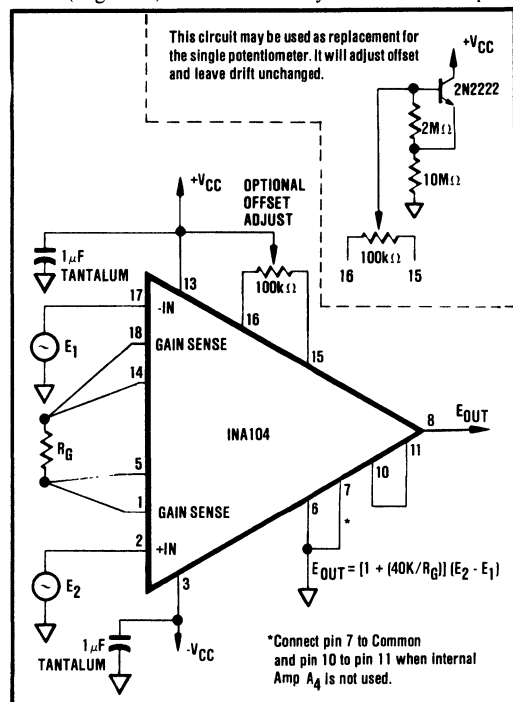
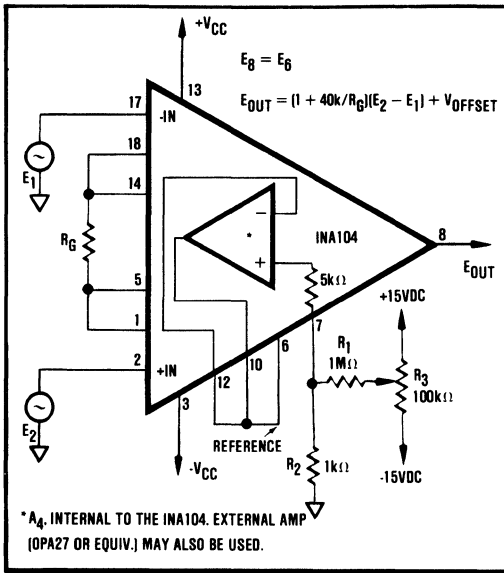
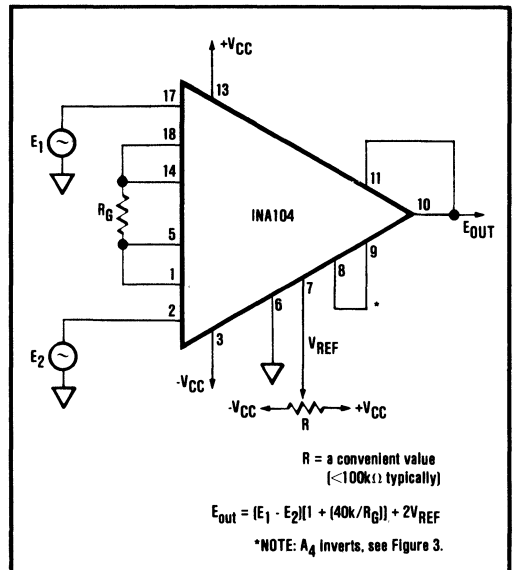

FIGURE 1. Basic Circuit Connection for the INA104 Including Optional Input Offset Null Potentiometer.
FIGURE 2. Optional Output Offset Nulling or Offsetting Using an Amplifier (Low Impedance to Pin 6).
FIGURE 4. Output Offsetting.
At +25°C, ±V_{CC} = 15VDC, and in circuit of Figure 1 unless otherwise specified
Figure 1 shows the simplest configuration of the INA104. The gain is set by the external resistor, R_G , with a gain equation of $G = 1 + (40K/R_G)$. The reference and TCR of R_G contribute directly to the gain accuracy and drift.
The optional offset adjust capability is shown in Figure 1. The adjustment affects only the input stage component of the offset voltage. Thus, the null condition will be disturbed (if input offset is not adjusted to zero) when the gain is changed. Also, the input drift will be affected by approximately $0.31\mu V/^\circ C$ per $100\mu V$ of input offset voltage that is trimmed. Therefore, care should be taken when considering use of the control for removal of other sources of offset.
It is frequently desirable to null the input component of offset (Figure 1) and occasionally that of the output
(Figure 2). The quality of the potentiometer will affect the results, therefore, choose one with good temperature and mechanical-resistance stability. The procedure is as follows:
3. Adjust the $100k\Omega$ potentiometer in Figure 1 until the output reads $0V \pm 1mV$ or desired setting. Note that the offset will change when the gain is changed. If the output component of offset is to be removed or if it is desired to establish an intentional offset, adjust the $100k\Omega$ potentiometer in Figure 2 until the output reads $0V \pm 1mV$ or desired setting. Note that the offset will not change with gain, but be sure to use a stable amplifier with good DC characteristics. The range of adjustment is $\pm 15mV$ as shown. For larger ranges change the ratio of R_1 to R_2 . The op amp is used to maintain a low resistance ($<0.1\Omega$) from pin 6 to Common to avoid CMR degradation.
The basic circuit connection for the INA104 is shown in Figure 1. The output voltage is a function of the differential input voltage times the gain.
Figure 1 does not include additional internal op amp A₄. Power supply bypassing with a 1μF tantalum capacitor or equivalent is always recommended.
with most other IC instrumentation amplifiers as shown in Figure 4. The use of the extra internal op amp, A₄, means that CMR of the instrument amp is not disturbed, and that a convenient value of variable resistor can be used. The circuit shown in Figure 2 can also be used to achieve the desired offsetting by scaling the resistors R₁ and R₂. A low impedance path from pin 6 to Common should be provided to achieve the high CMR specified. Resistance above 0.1Ω will cause the CMR to fall below 106dB.